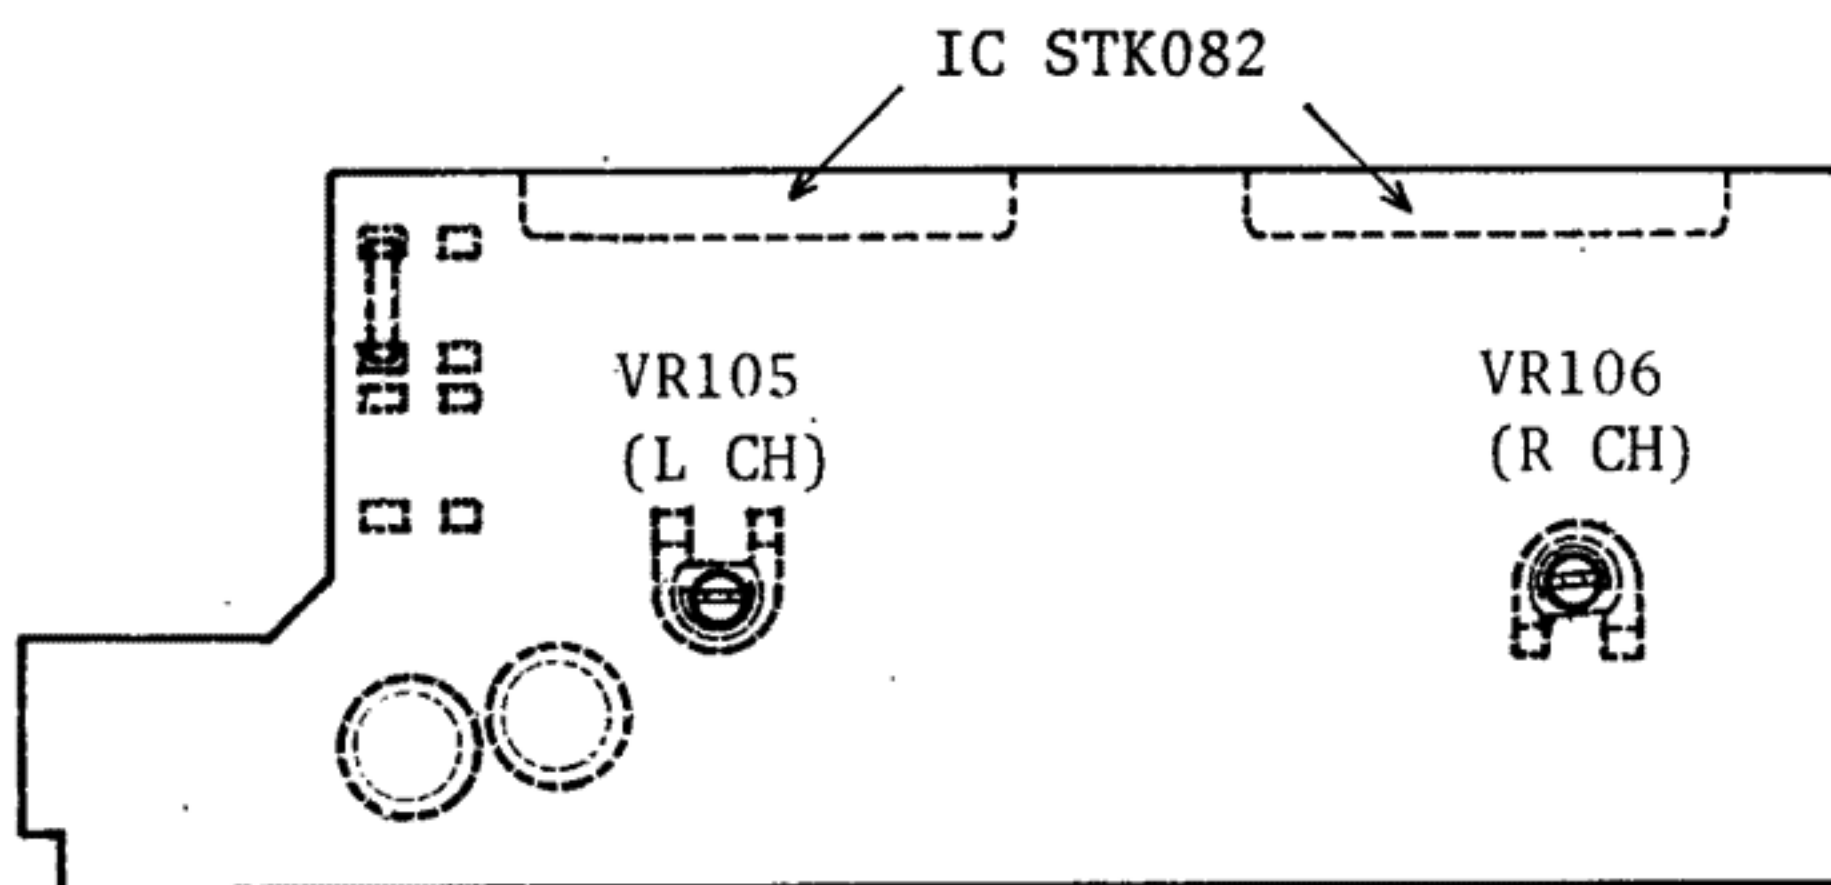
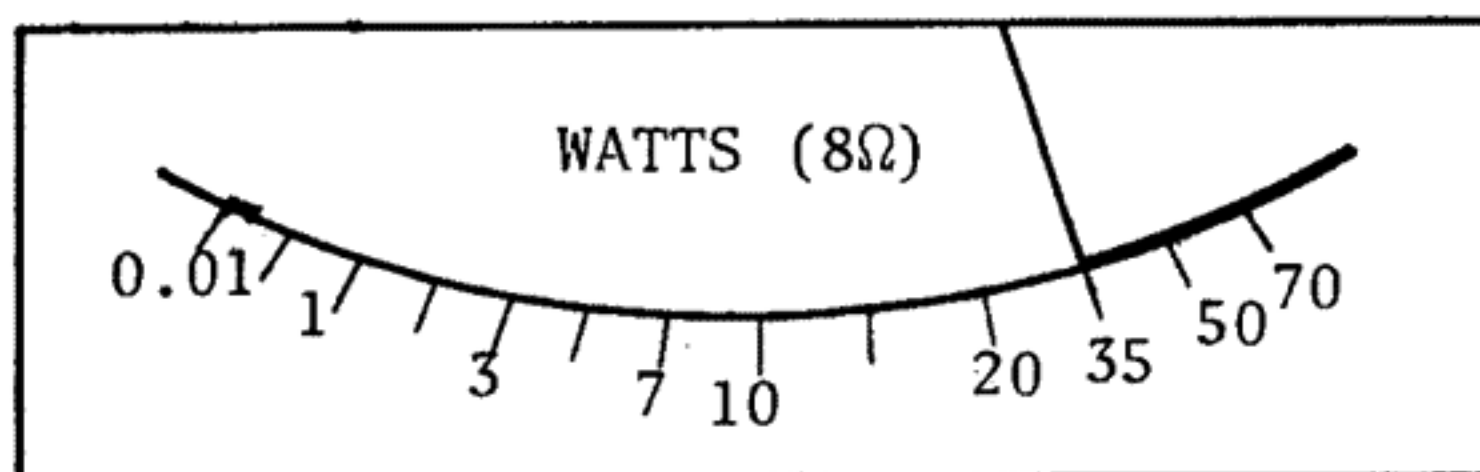

Fig. 7 Adjustment Points.
Fig. 8 Level Meter.
4. Now, adjust VR105 (LEFT) and VR106 (RIGHT) on the Pre/Main Amplifier P.C. board (see Fig. 7) until the POWER LEVEL meter deflects to the mark '35' (see Fig. 8).